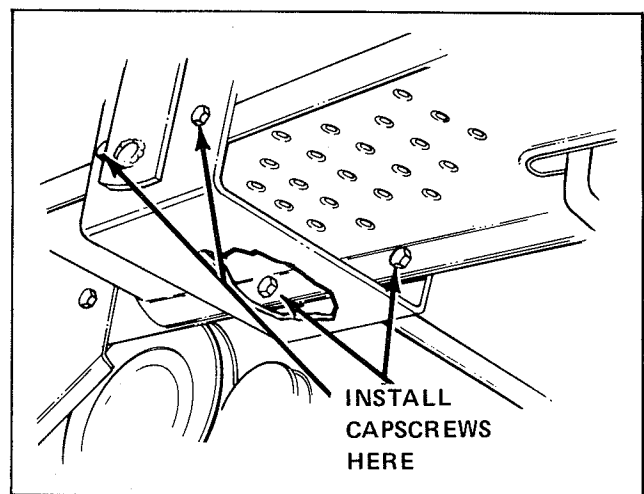

Figure 2.
2. Slide the end of the lift lever shaft through the small support bracket and position the large support bracket as shown in figure 2.
3. Attach the large support bracket to the inside of the right frame and the outside of the right foot rest. Use the 4 remaining cap-screws, lockwashers and nuts provided (see figure 2). Install the cap-screws from the outside of the tractor, with the lockwashers and nuts to the inside. After positioning all hardware, tighten all nuts.